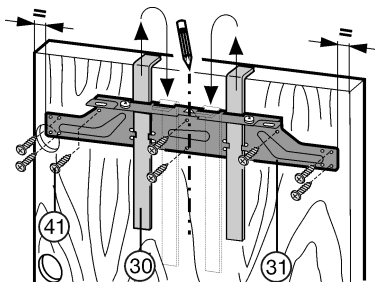

Fig. 19
- ▶ Unscrew the cross-piece *Fig. 19 (31)* by undoing the lock-nuts *Fig. 19 (32)*.
- ▶ Attach the cross-piece *Fig. 19 (31)* together with the assembly aids *Fig. 19 (30)* to the inside of the unit door.
- ▶ Concentrically align the cross-piece *Fig. 19 (31)*: Mark a short centre line on the unit door and put the tip of the arrow on the crosspiece over it.
- ▶ Tightly screw the cross-piece *Fig. 19 (31)* into place using at least 6 screws *Fig. 19 (41)*.
- ▶ Tightly screw the cross-piece *Fig. 19 (31)* into place using 4 screws *Fig. 19 (41)* at the edge.
- ▶ Raise and remove the assembly aids *Fig. 19 (30)*, turn them and slide them into the adjacent openings.